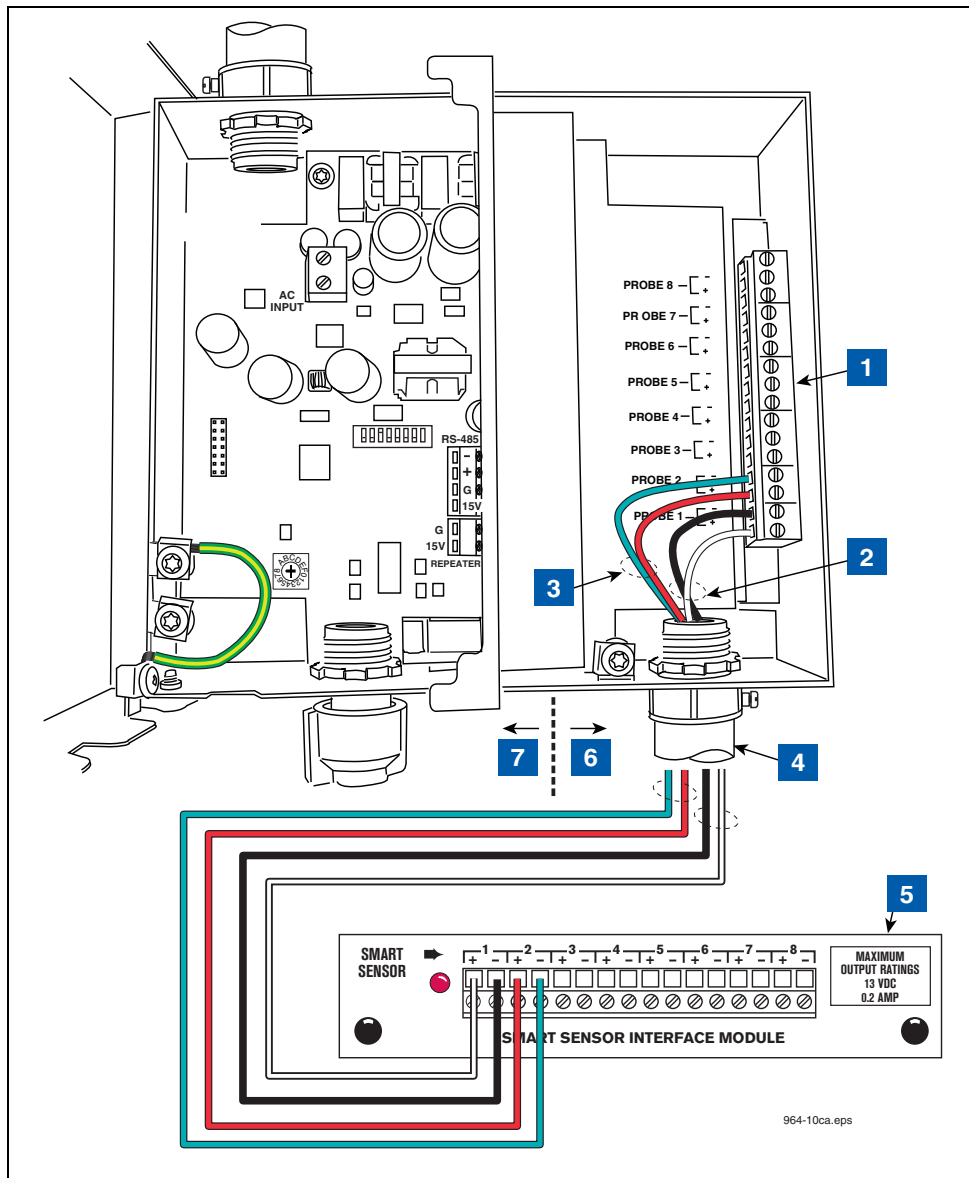

Figure 11. Wiring Data Outputs from TLS RF to TLS Console
**LEGEND FOR NUMBERED BOXES IN Figure 11**